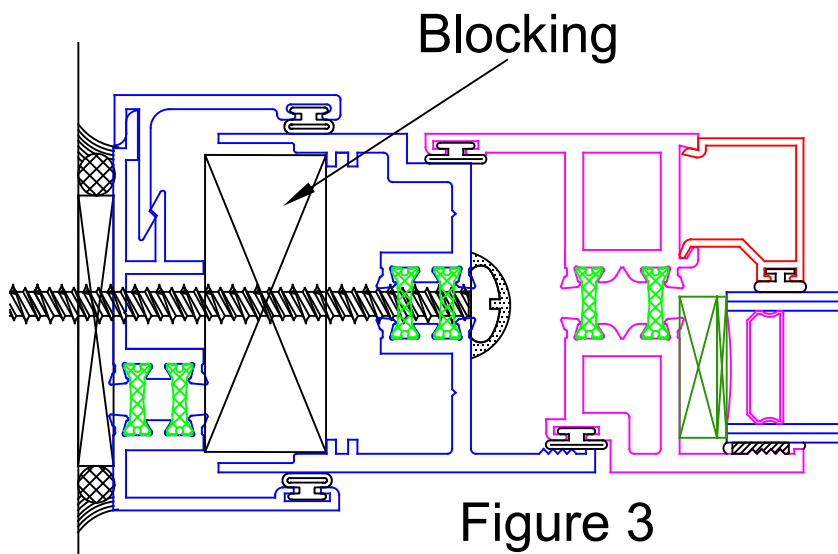
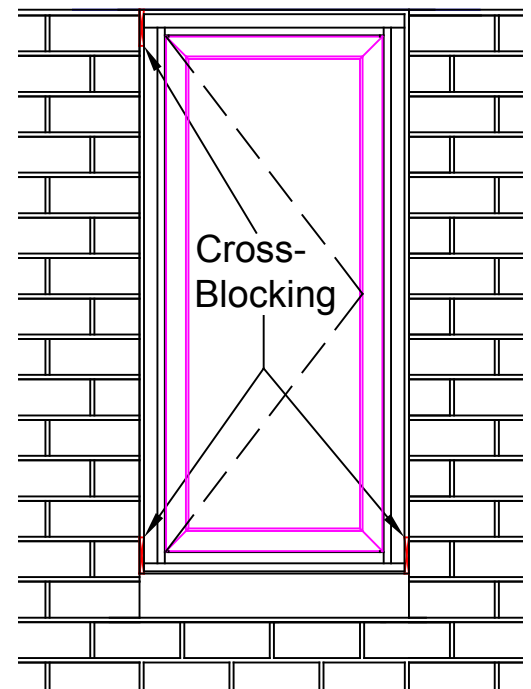

Figure 3
Figure 2
- B. If a casement is installed in a receptor, cross-blocking will be needed to prevent the window from going out of square when opened (See figures 2 and 3). Apply shims and/or blocking at each hinge and lock location (See figure 3). Apply fasteners at, or within 2", of the hinge and lock locations.